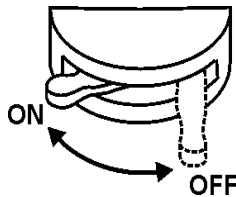

Figure 23. Battery ON/OFF Switch
5. Set the battery ON/OFF switch (Figure 23) to the ON position.